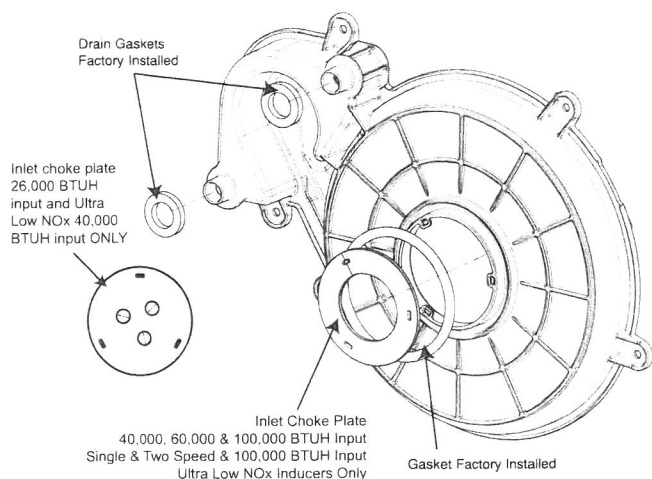

Fig. 4 – Inlet Choke
**NOTE:** Some PSC and Ultra Low NOx inducers have a factory-installed Inducer Inlet Choke. The Inlet Choke snaps into the inlet of the Inducer Assembly. A new Choke Plate is included in the loose parts bag of the inducer kit. If a new Choke Plate is required as shown in Table 3 and is not included in the loose parts bag, the choke plate from the old inducer assembly can be re-used in the new assembly. Modulating inducer assemblies do not use an Inlet Choke Plate, see Fig. 4.